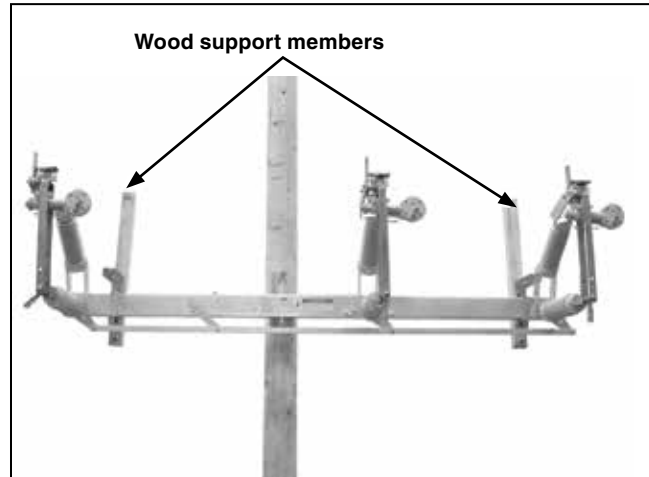

Figure 11. Removing the wood support members.
STEP 9. Remove the wood support members, lifting straps, and banding straps provided to facilitate hoisting of the switch. See Figure 11.